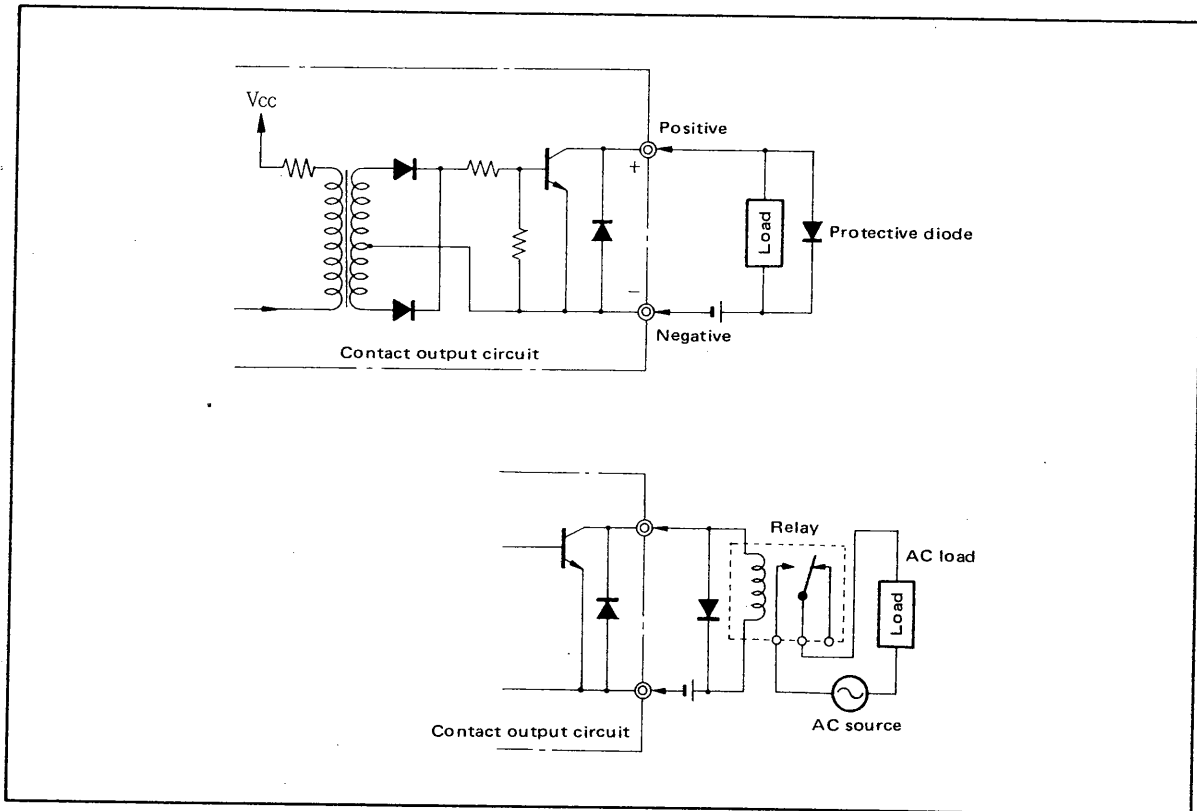

Figure 3-1-3. Connection of Contact Outputs.
- (1) Be sure to terminate all cable connections in solderless crimp-on lugs.
- (2) Each contact and voltage input must be as per SLPC specifications. Note the limits on lead-wire resistance, voltage drop in lead-wires, and voltage (high/low) levels. (Refer to the SLPC General Specification at the back of this manual).
- (3) The fail and digital outputs are transistor contact signals, (isolated from power supply and other internal circuitry). When connecting external devices, pay attention to the following: (See Figure 3-1-3.)
- When connecting a relay or other such inductive device, connect a surge absorber (protective diode — Figure 3-1-3, CR circuit, etc.) in parallel with the load.
- Note that contact outputs cannot be connected directly to an AC circuit. Use a relay to switch an AC circuit (see Figure 3-1-3).
- (4) Use shielded twisted-pair SCCD cable for communication lines (terminals 17, 18).
- (5) Short-circuit unused current output terminals.